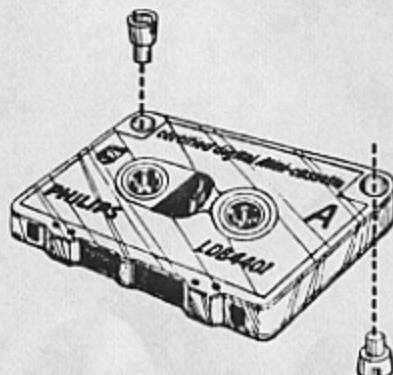

Fig. 3. Mini-DCR – Physical Composition of the Mini-Cassette
- Fig. 3. Mini-DCR — Physical Composition of the Mini-Cassette
— Each mini-cassette can be equipped with a write-enable plug in order to prevent writing on a recorded tape. The position of the write-enable plug determines whether writing is enabled on track 1 or 2 (see fig. 3).